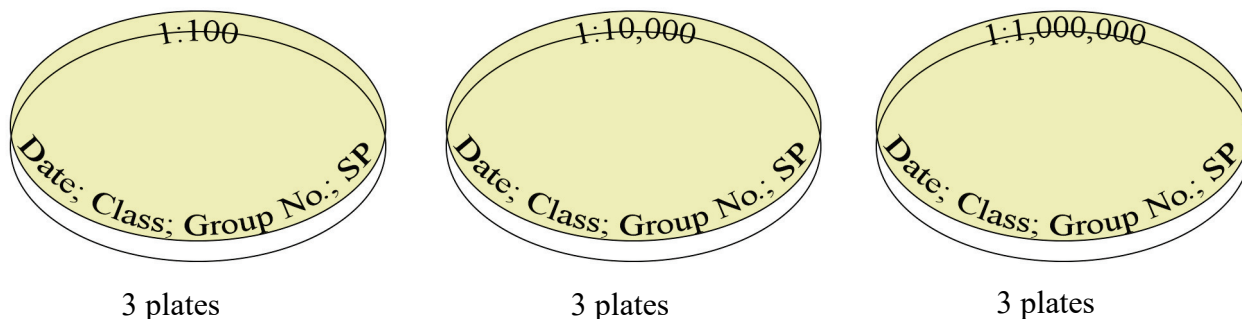

Fig. 11
12. Label the bottom of three of the plates “1:100”, another three plates “1:10,000” and another three plates “1:1,000,000” (Fig. 11).